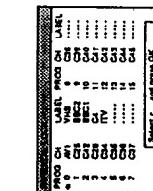

Fig. 26.
- The cursor appears beside the next programme position (at the left margin). (See Fig. 26.) Now the fine-tuned level is stored. Repeat steps 4 to 6 to fine-tune other channels.